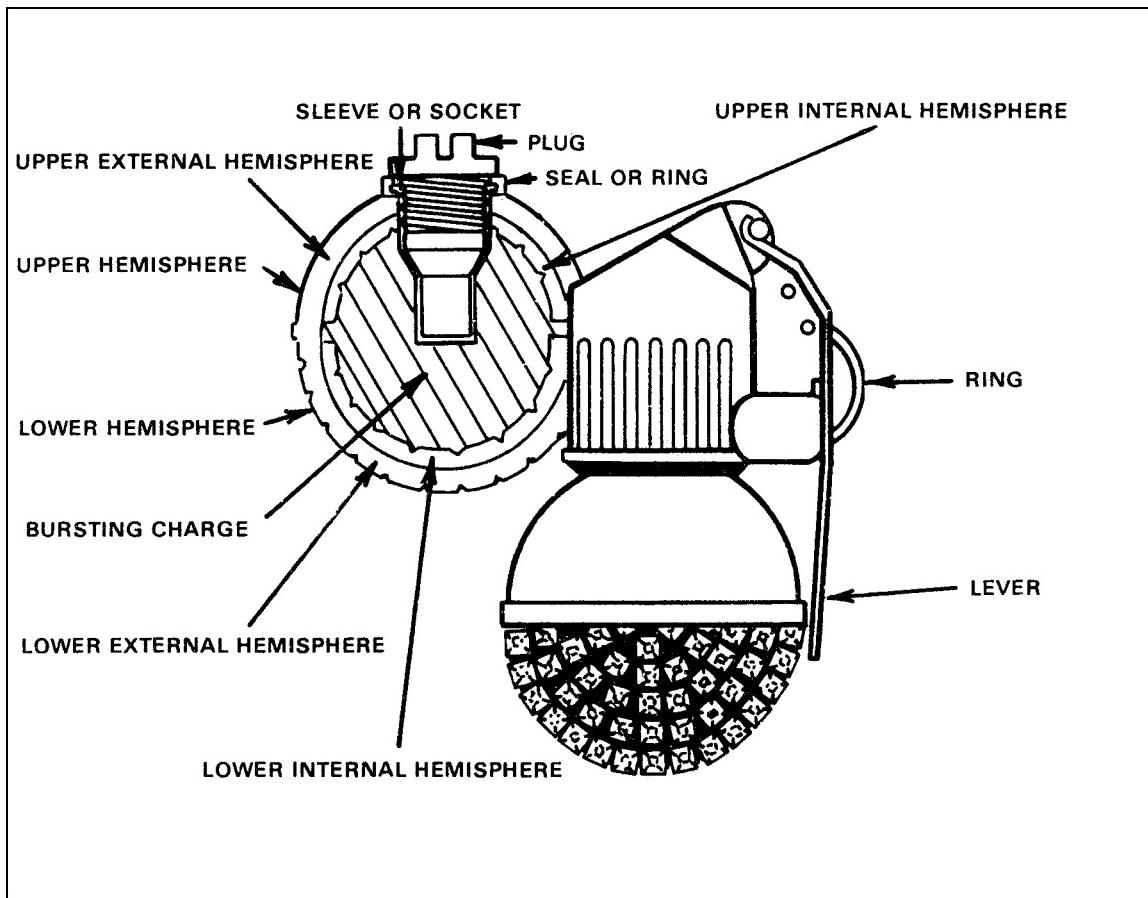

Figure D-2. RGO hand grenade.
- Type: Defensive. (Figure D-2)